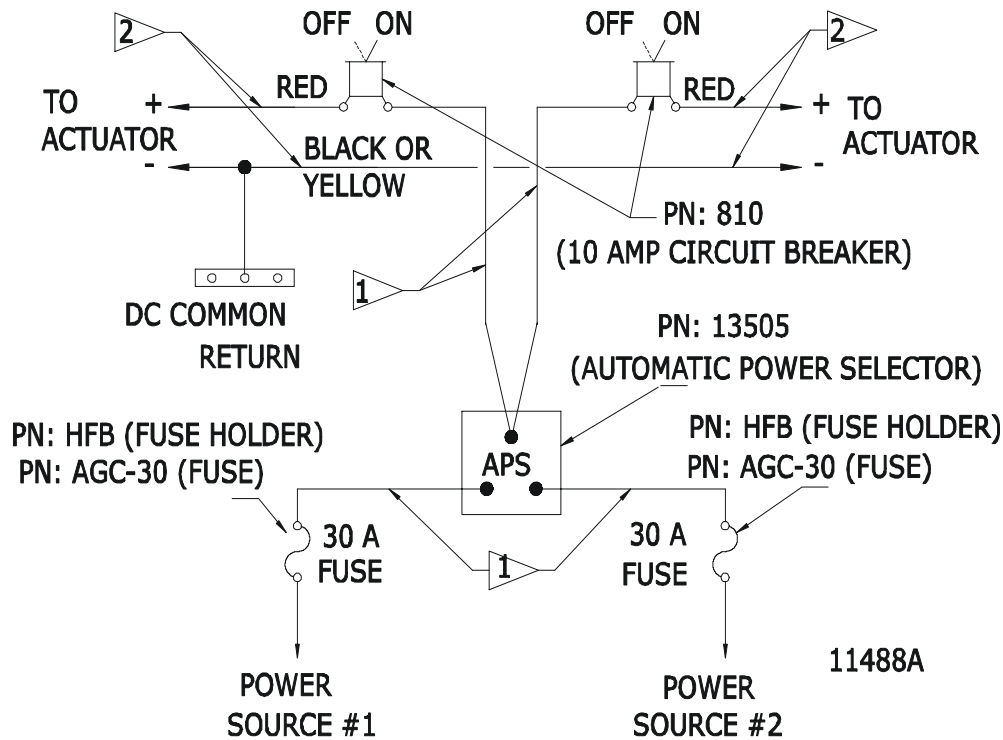

Figure 2: APS Power Connection
2. To ensure reliable power to the Processor(s) even with a failure of single battery, the APS (Automatic Power Selector) may be used as shown in Figure 2:.